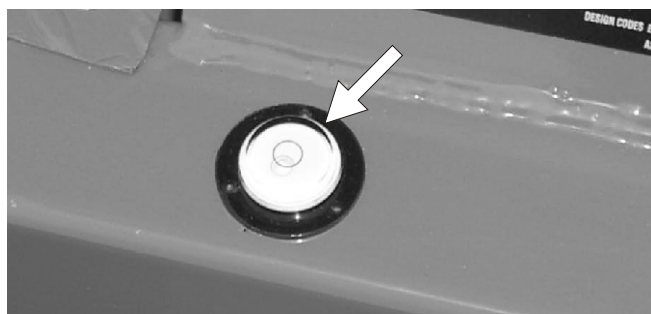
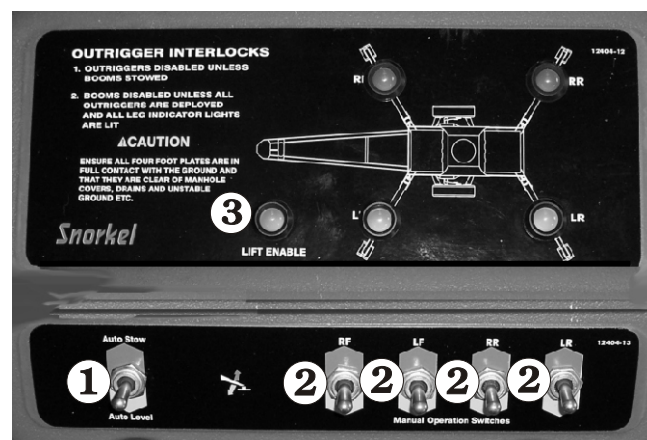

Figure 10.7 - Bubble Level
Figure 10.8 - Auto Level Controls
Lower the rear stabilisers and level the machine using the level bubble (see Figure 10.7) adjacent to the control levers.
1. Operate each switch ② (see Figure 10.8) to raise or lower each stabiliser one (1) at a time. Use the level bubble (see Figure 10.7) to check the machine is level.